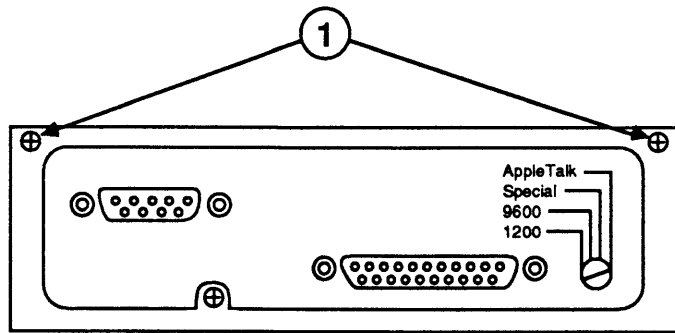

FIGURE 2-55
- b) Remove the two silver-colored mounting screws (Figure 2-55, #1) that connect the mounting connector plate to the printer chassis.